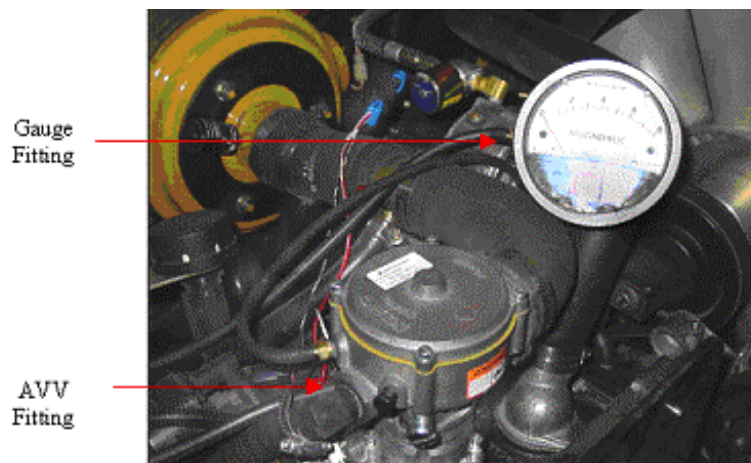

Figure 33. Magnehelic Gauge Connection
1. Install Union Tee fitting in the hose between the FTVs and the AVV fitting. Connect this fitting to the low pressure port of the Magnehelic gauge (**Figure 33**).
2. Leave high pressure port of the Magnehelic gauge exposed to ambient pressure (**Figure 33**).